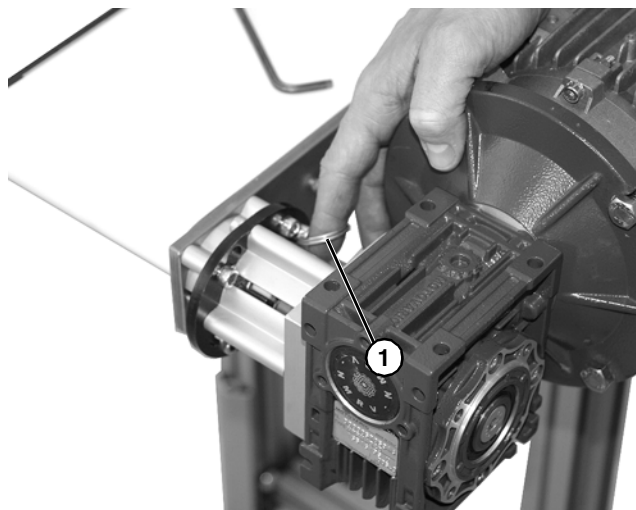

Figure 9
11. Install quick release pin (**Figure 9, item 1**).